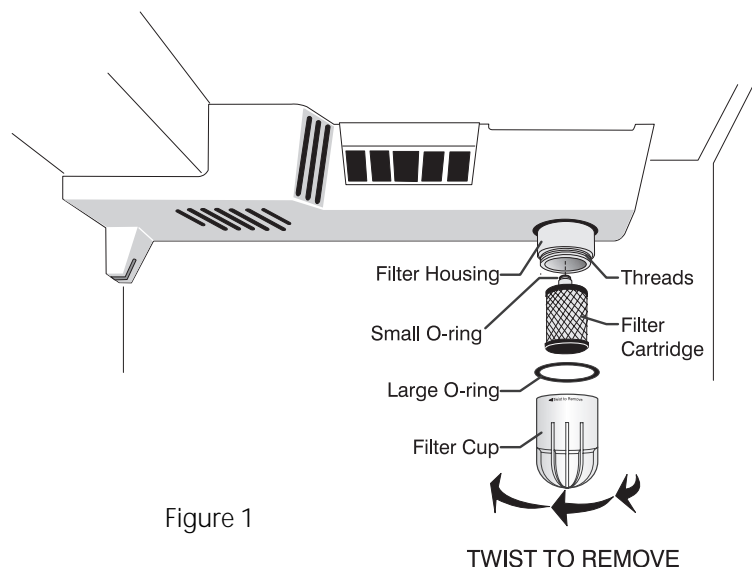

Figure 1
This ice and water filter system filters water to your ice maker and water dispenser. It is located in the upper right back corner of the fresh food compartment (see Figure1).
Water supply does not need to be turned off, however do not use ice and water dispenser while installing filter. Refer to Figure 1 as you complete these instructions.
Refer to Figure 1 as needed. It is not necessary to turn the water supply off to change the filter.
2. Hold filter cup firmly, and unscrew counter clockwise (Figure 1). (Some water could leak out as you remove cup. This is normal.) Filter cartridge should come down with cup. If cartridge remains in housing, pull down gently, while twisting filter back and forth.
4. The large o-ring (Figure 1) that seals the filter system sets in the o-ring groove down inside the cup. Should the o-ring fall out during filter cartridge replacement, simply place it back in the groove prior to screwing the cup back in place. If the o-ring becomes damaged, you will need to order a new one from the Consumer Assistance Center.